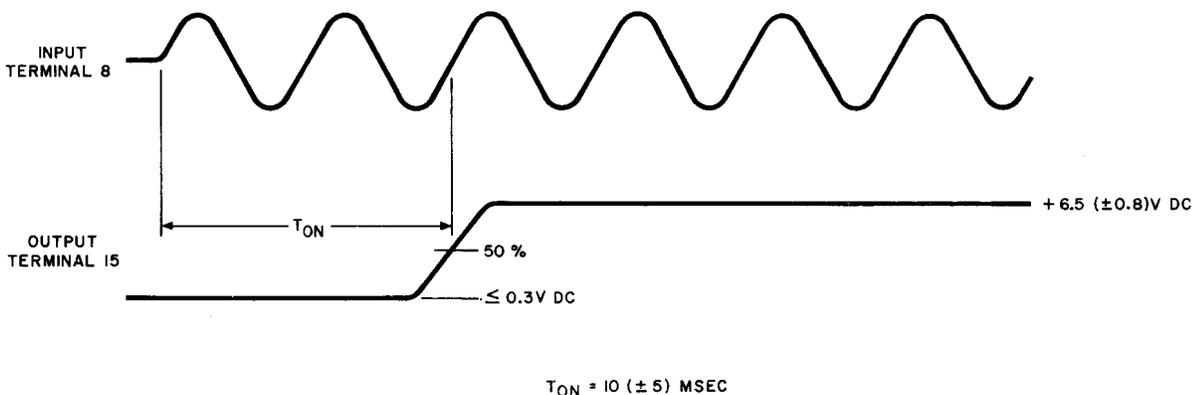

Fig. 22A — Automatic Gain Control 2 Test
(4) Set the scope EXT SYNC TRIGGER selector to the (+) positive position. The input waveform on terminal 8 of the AGC1 circuit pack and the output waveform on terminal 15 of the AGC1 circuit pack shall be as specified in Fig. 22A.